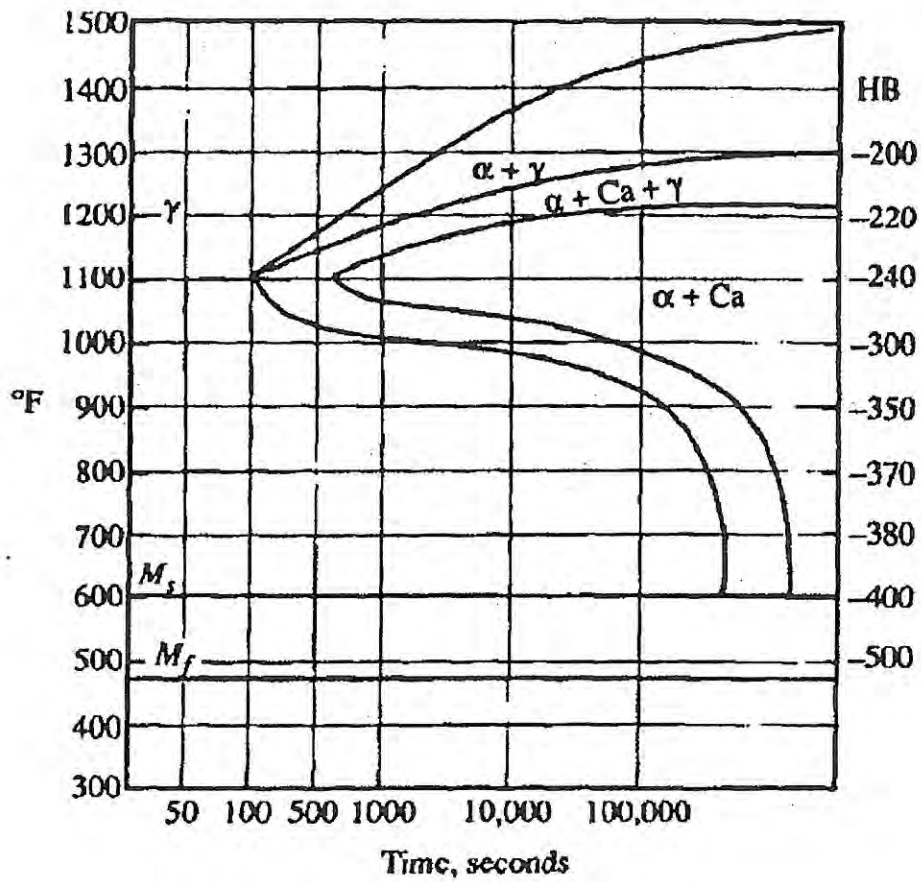

Fig 2. Temperature Time Transition Diagram for 1035 carbon steel
5. (a) Fig 2 shows the TTT diagram for a 0.35% carbon steel. The hardness data are for fully transformed structures. The symbol Ca is for carbide.